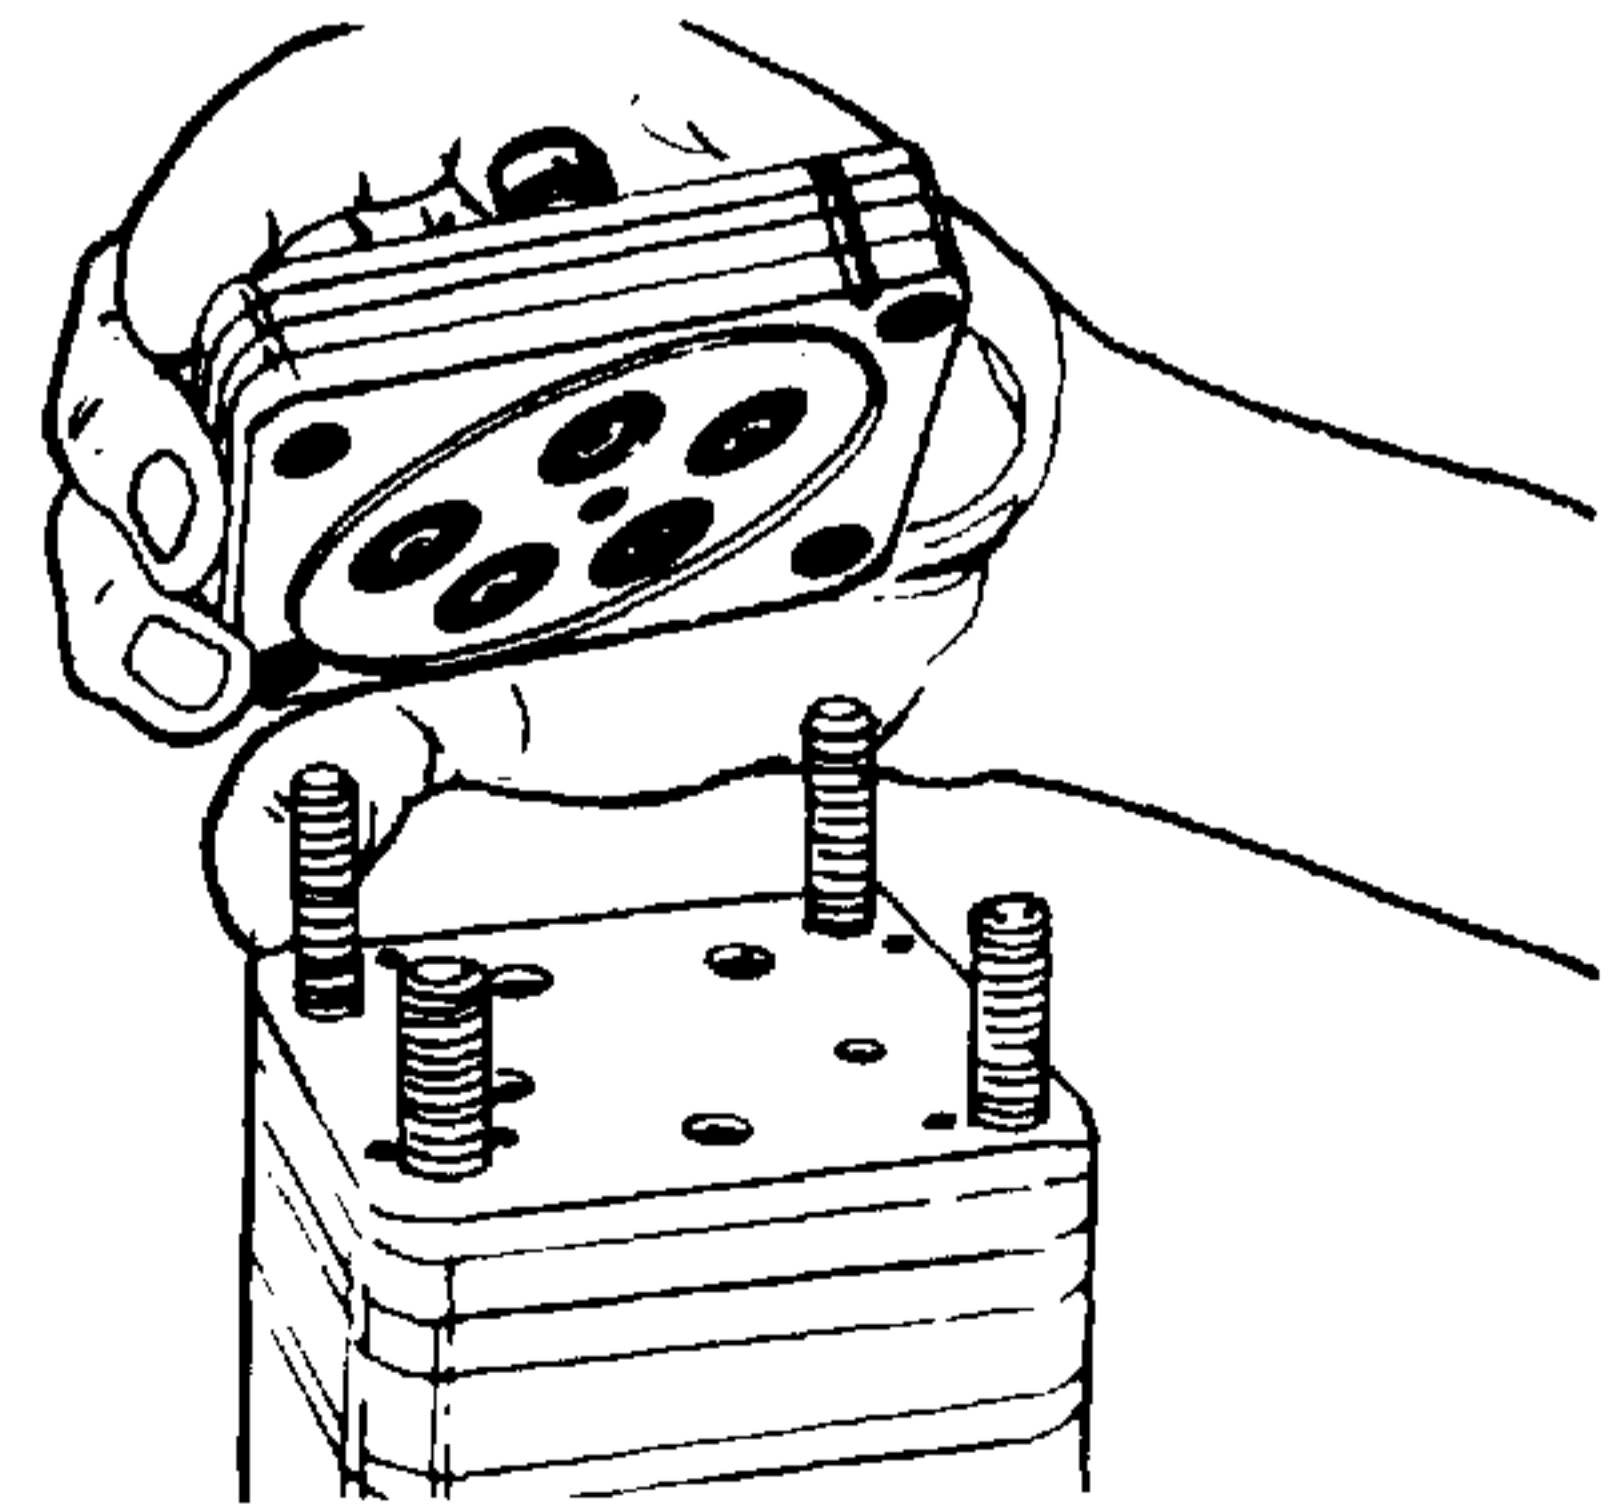

Figure 4-89. Installing Power Cylinder Cover.
41. Align a groove on the side of the cover (2, Figure 4-1) with the grooves on the side of the port manifold (6) and place the cover (2) into position. See Figure 4-89.